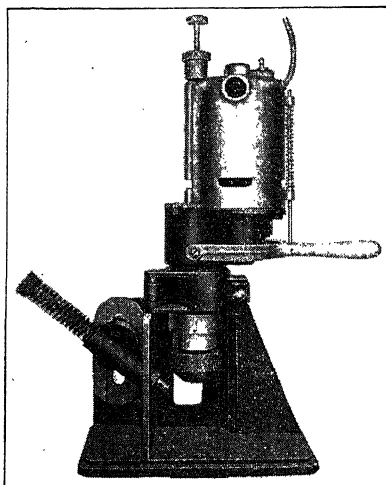

Fig. 35. Hall Eccentric Valve Seat Grinder
**Reconditioning the Hardened Valve Seat.** Valve inserts are sometimes made from hardened metal difficult of machining except by grinding. An eccentric grinder operating at a spindle speed of 9000 revolutions per minute may be used for this work. This grinder, illustrated in Fig. 35, has a high-speed shaft revolving in an eccentric shaft which turns thirty times per minute. The bevel of the grinding stone is that of the finished seat. Only point contact is made by the stone with the result that the action is similar to that of cylinder grinding. The device mounts in the valve stem guide. The stone is first set close to the seat and then the feed of the spindle is used to adjust the stone as it is fed to the work. The handle on the machine is used to balance the torque and permit of fitting it to all types of motors.